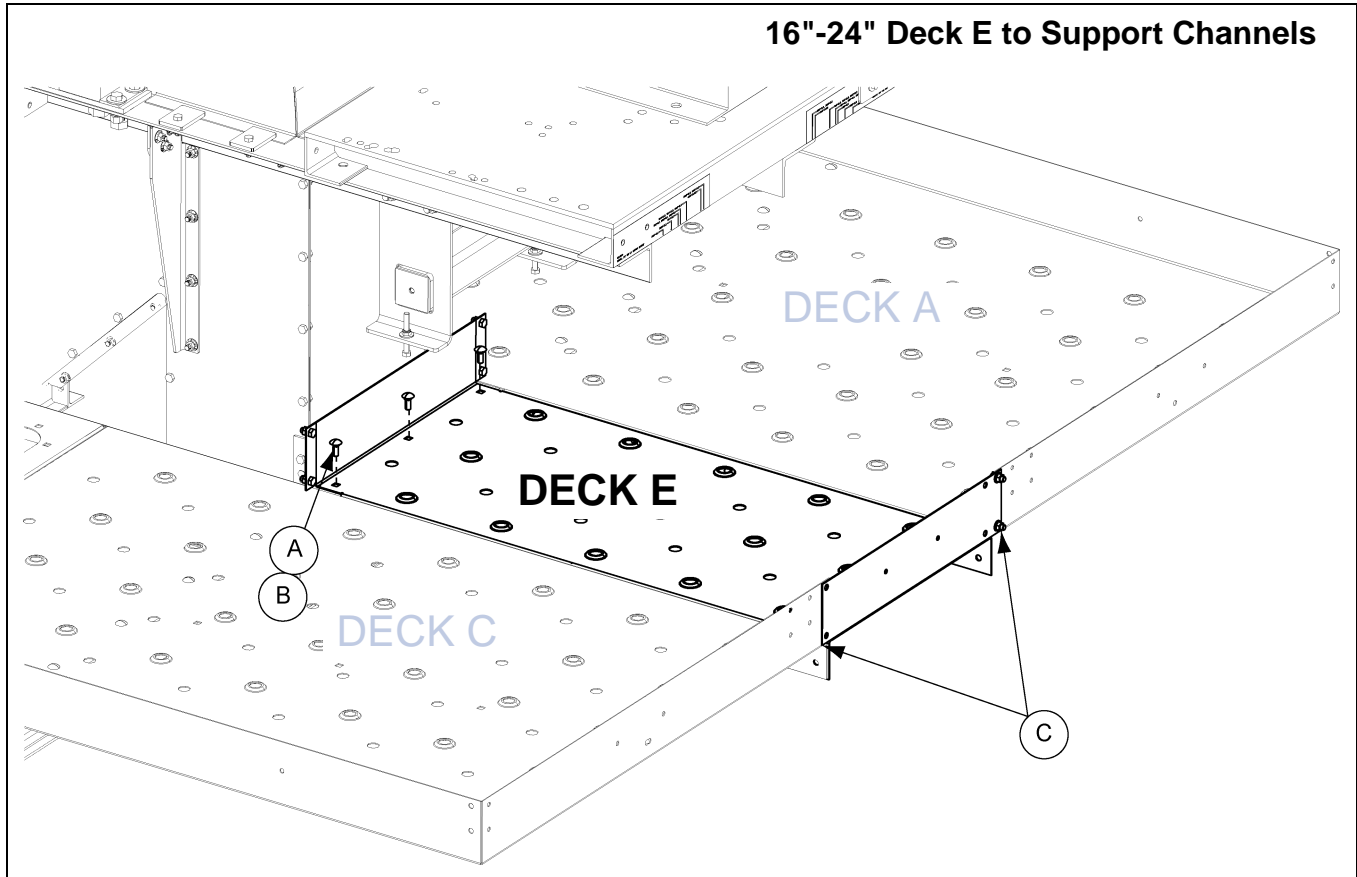

Figure 8I 24" Deck E to Support Channels
3. Using 3/8" x 1" carriage bolts (S-3585) and 3/8" flange nuts (S-10028), connect Deck E to main support channel. **IMPORTANT:** Connect every hole. (See Figure 8I.)